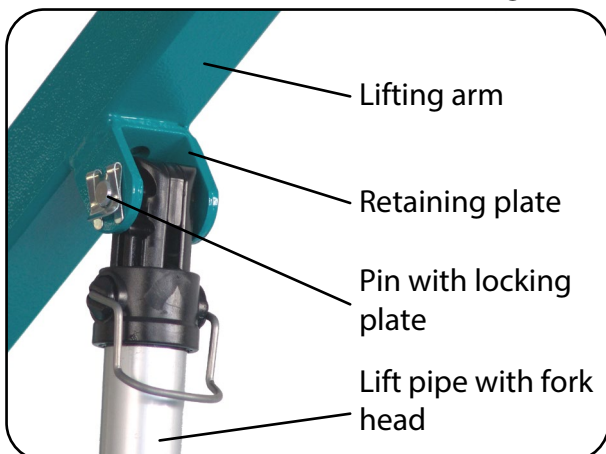

Fig.13.2.01 – Retaining plate on the lifting arm
2. Remove the locking plate and the pin that fastens the lift drive to the lifting arm's retaining plate (Fig.13.2.01). Swivel the lift drive forwards and mount the pin with the locking plate on the retaining plate.